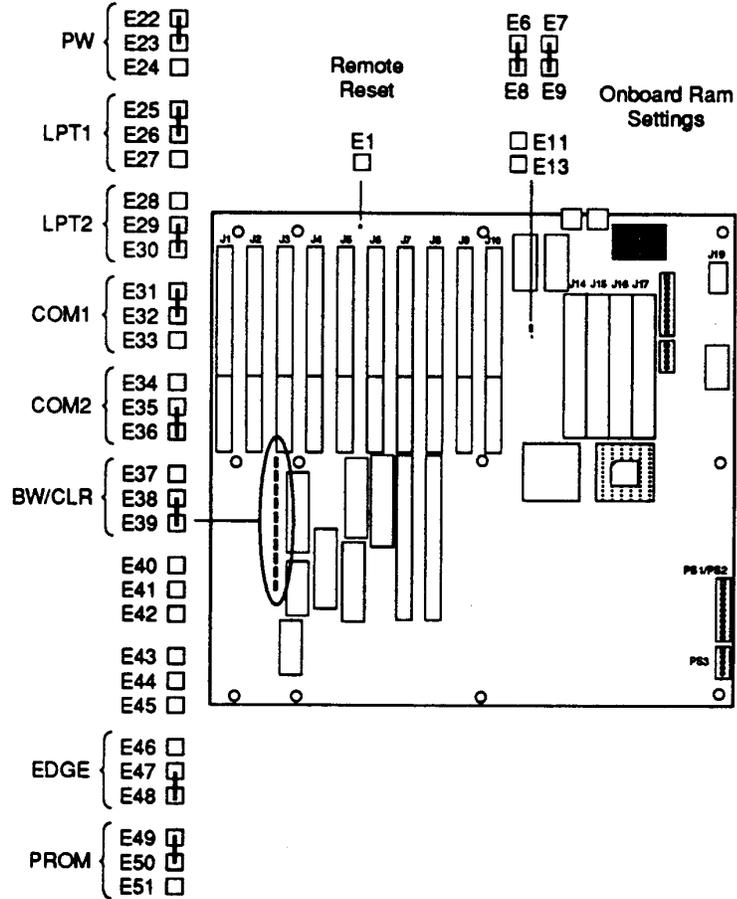

Figure A-10. Location/Settings of Main Board Jumpers on 6386E/33 WGS
5. Make sure that the SIMM is seated correctly. If not, gently spread the retaining clips (C) just enough to permit the top edge of the SIMM to be pulled away from the clips. Then reseal the SIMM.
6. When the SIMM is seated, gently push the top edge back toward the slot retaining clips until it snaps into place (D).
8. Refer to Figure A-10 for the location and correct settings for all jumpers. Jumper settings need to be changed to provide the correct memory and communications information to the system. It may be necessary to remove circuit boards already installed (for example, the video display controller board) if they are blocking access to the configuration jumper area. Make sure you replace these cards in the correct slots on the main board after you access the jumper settings.